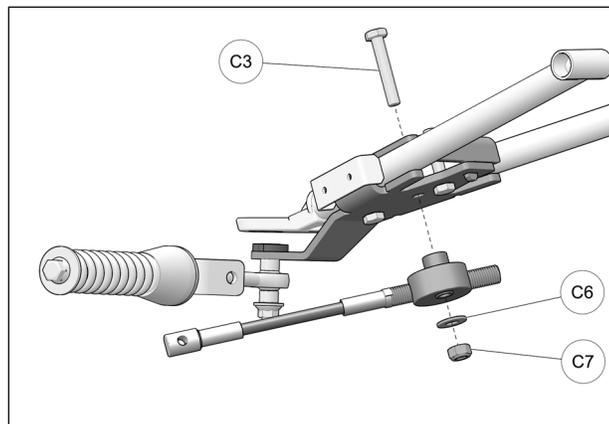

Fig. 22
12. Pass bolt (C3) down through opening in bracket cover and insert it in the anchor bracket's central hole. Slip steering limiter cable assembly over bolt (C3) and use washer (C6) and nut (C7) to secure assembly to anchor bracket. Tighten nut to 50 N•m [37 lb•ft]. Refer to Fig. 22